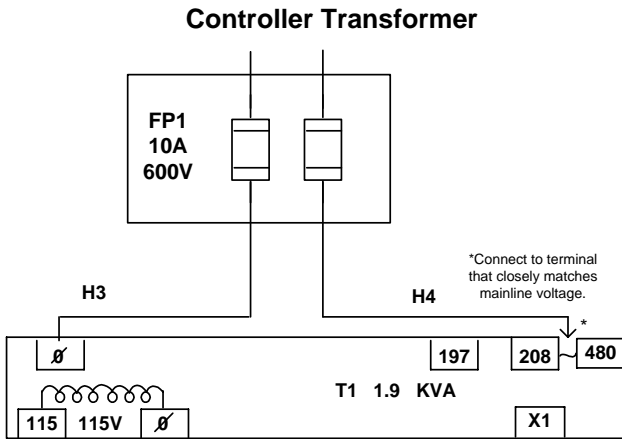

Figure 3-10
1. Verify the wires from the FP1 fuses are connected to the proper taps on the controller transformer. This tap setting should be the same as the 3 phase voltage at the disconnect. [See Figure 3-10.]